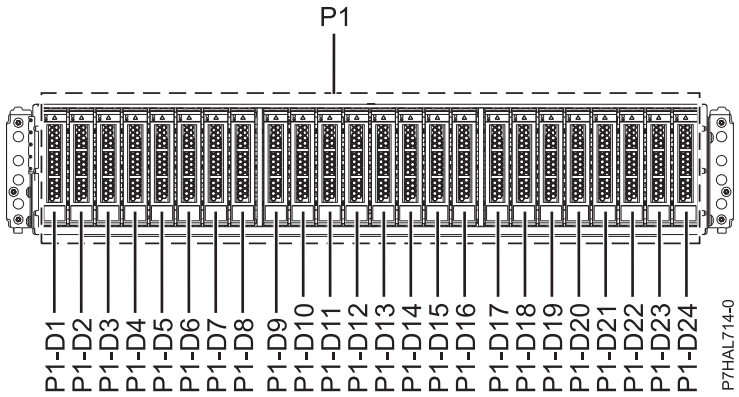
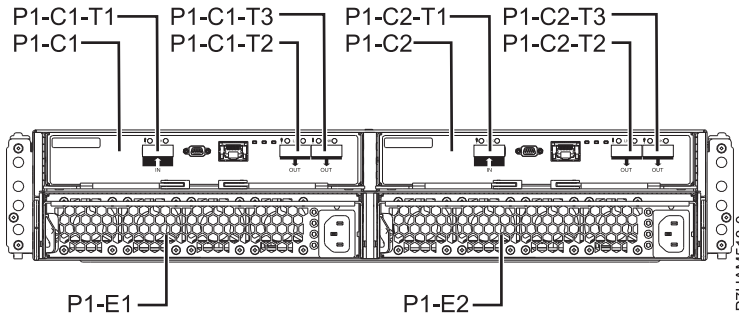

Figure 15. Front view of the 5887 disk drive enclosure showing the disk drive locations
Figure 16. Rear view of the 5887 disk drive enclosure
1. Identify the part and the enclosure that you want to service. The disk drive and SSD slots are located in the front of the enclosure. Figure 15 on page 16 and Figure 16 on page 16 show the front view and rear view of the enclosure and the disk drive locations in the enclosure.